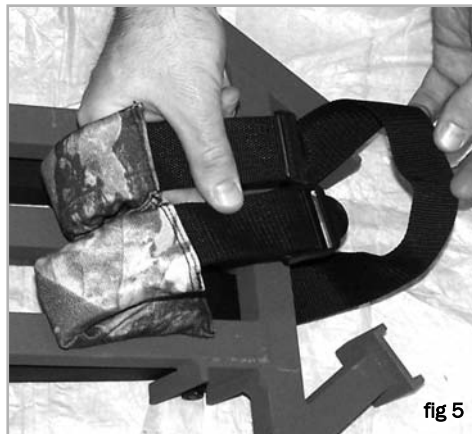

fig 5
Step 4: Push TWO ENDS with SHOULDER PADS THROUGH LOOP that was created on outside of PLATFORM (fig 5).